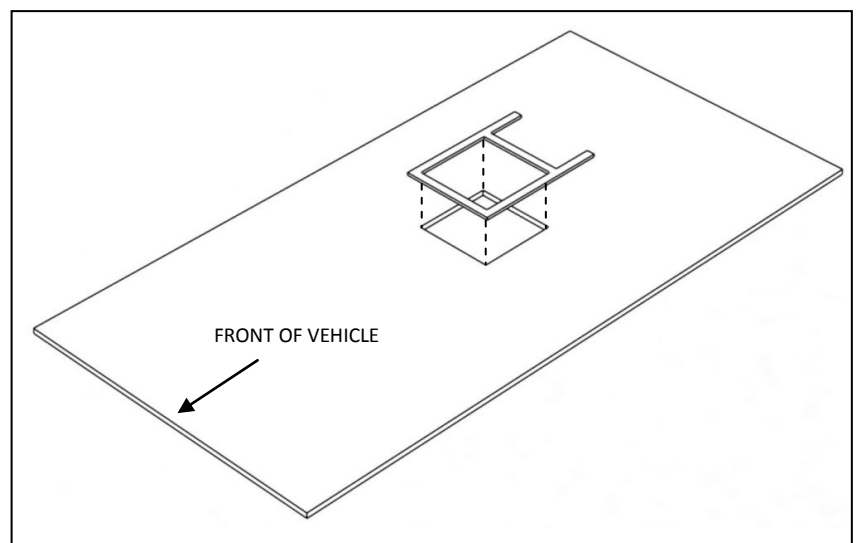

Fig 5: Shows the placement of the roof gasket over the hole. Note the positioning in relation to the front of the vehicle
- Gasket must be applied with self adhesive side down. Note orientation of gasket to direction of travel (Fig 5). Press gasket down to ensure good adhesion.